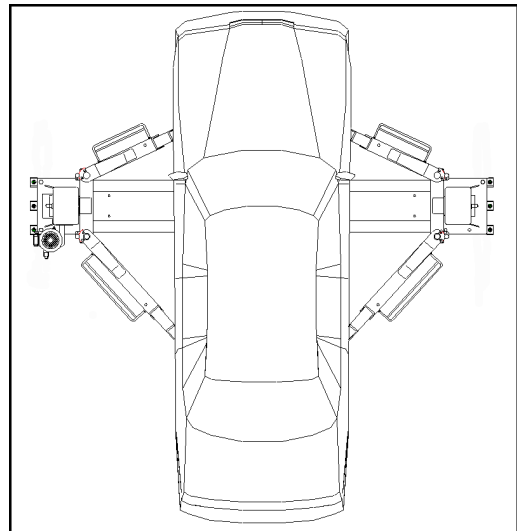

Fig. 10 Correctly Loaded Vehicle
It is important to position the vehicle on the lift so that the weight is correctly distributed on the arms. (*Fig. 10*) For person and equipment safety, it is important that:
- ◆ The vehicle is correctly positioned. (*Fig. 10*)